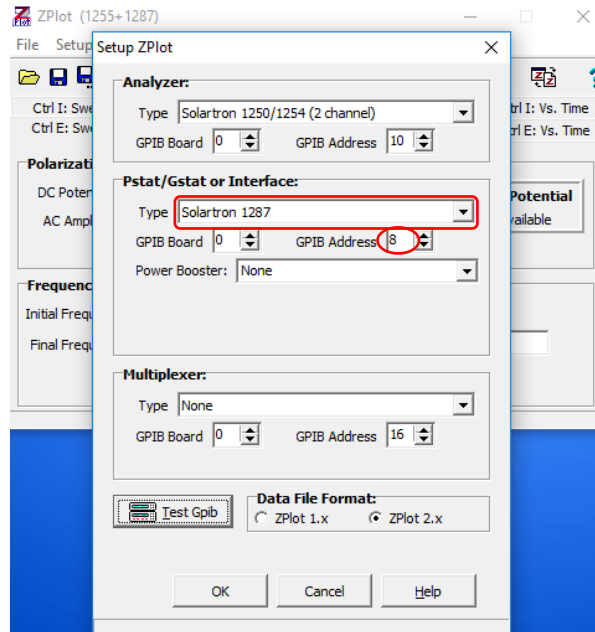

Figure 4
b. Record the setting of the “Pstat/Gstat or Interface” type and the GPIB address (Figure 4).
h. Finally, reset the Pstat/Gstat Interface and GPIB address back to its original setting (Figure 4) before clicking “OK” to exit ZPlot setup.